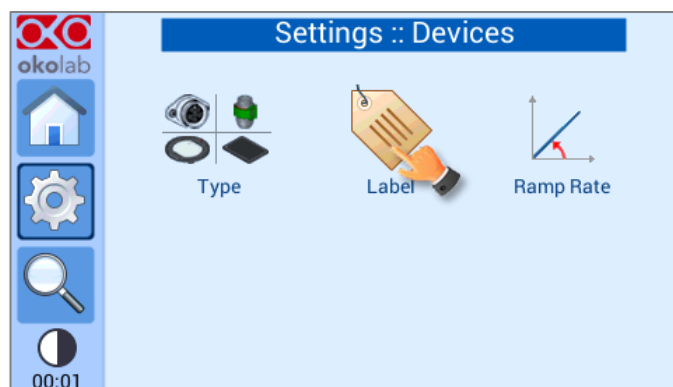

Figure 27. How to attribute a label to a device
- 1 Press on the Label icon  , see Figure 27.